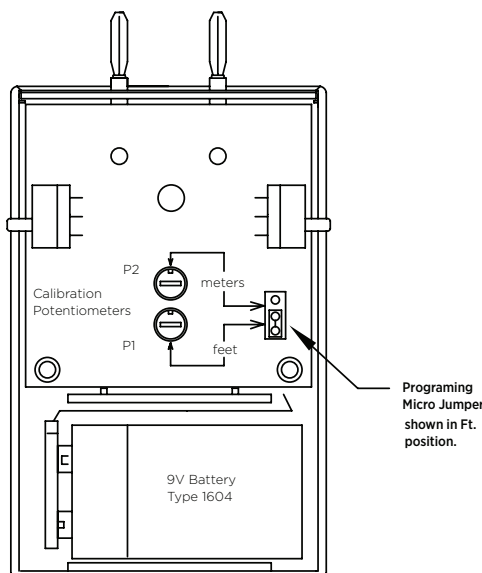

FIGURE 5 COVER REMOVED SHOWING PROGRAMING JUMPER AND CAL. POT.
The Meter Adapter Model APL-90 is housed in a high-impact plastic case which measures 3 3/4" x 2 1/2" x 1", weighs 4 ounces and is powered by (1) 9V NEDA Type 1604 battery with a life of approximately 100 hours. Red and Black 4 foot long test leads with insulated standard size alligator clips are provided. The unit is equipped with a standard size double banana plug spaced 3/4" apart. This plug provides the means to connect into a typical Digital Multimeter. A power ON/OFF slide switch and a power on L.E.D. indicator are also provided. On the opposite side of the power switch is a calibration check/ test slide switch. A programmable Micro Jumper located inside the adapter (see figure 5) is provided for selecting either Feet or Meters as the unit of measurement to be digitally displayed.
4. If adapter is programed to measure in feet the selectable micro jumper will be in the position shown in figure 5.
5. To calibrate: Use a small screwdriver (1/8" blade or smaller) to adjust potentiometer P1 (See Figure 5) so the meter will display a count of 540 (feet).
2. Position Programing Micro Jumper for the type of unit of measurement required. (See Figure 5)